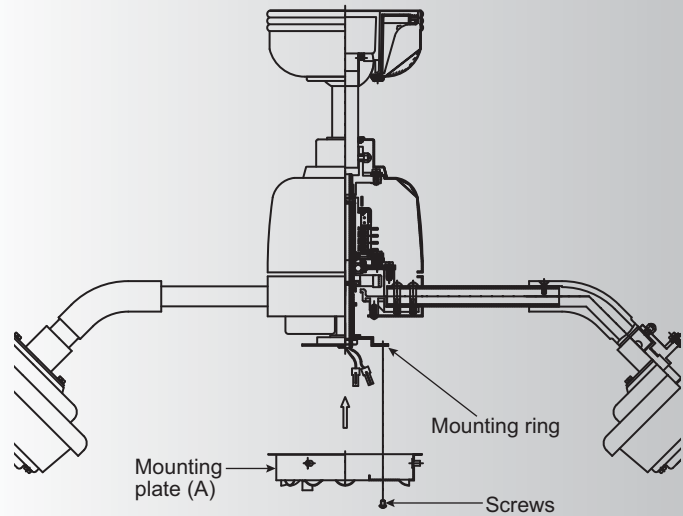

Fig. 16
1. Loosen the two screws on the mounting ring attached to the motor shaft and "remove" and save the third screw. (Fig. 16)
2. Place the key hole slots on the mounting plate (A) over the two screws previously loosened on the mounting ring.